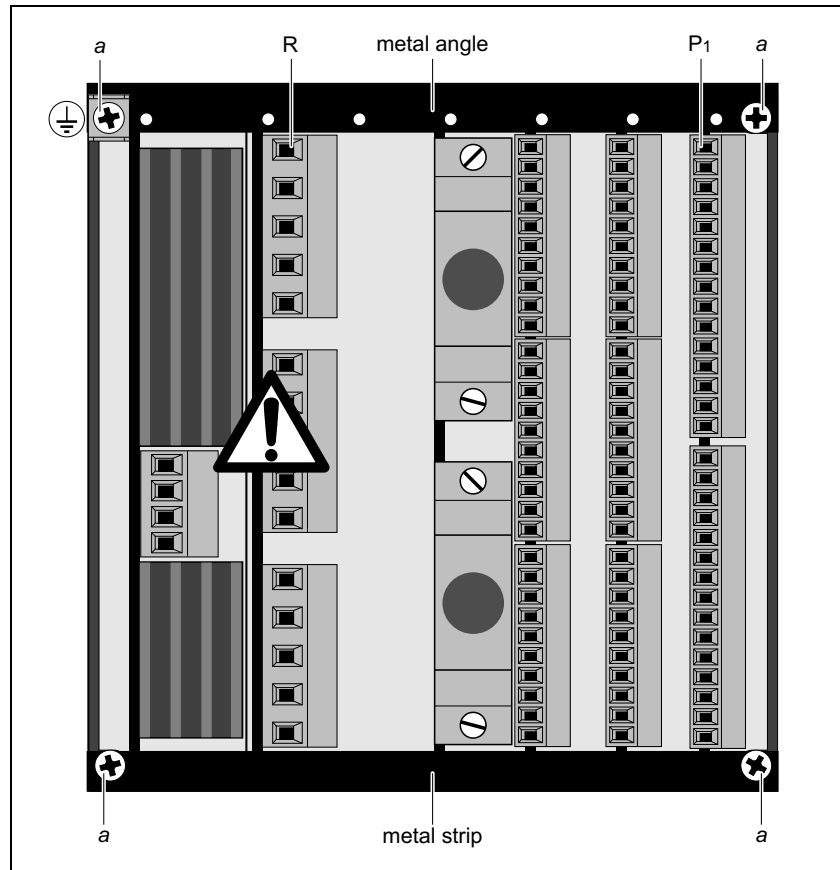

Fig. 1 (here: Controller GEL 8310 without CE certification)
Before any service work is carried out at the Controller, make sure that the **whole** Controller, i.e. including the inserted module, is dead. This applies, in particular, to the **relay cards R** used (see Fig. 1): operating voltages up to **240 VAC** are possible!
- ✓ Remove metal angle and strip: unscrew 4 recessed head screws (Fig. 1, a); with the GEL 8610 there are 2 additional screws in the middle top and bottom
The Controller housing contains each 2 adjacent guiding rails. Both power and P1 modules (see Fig. 1) are to be inserted into the left guiding rails. All other modules are to be inserted into the right rails (see also appendix B under 'Module arrangement ...').